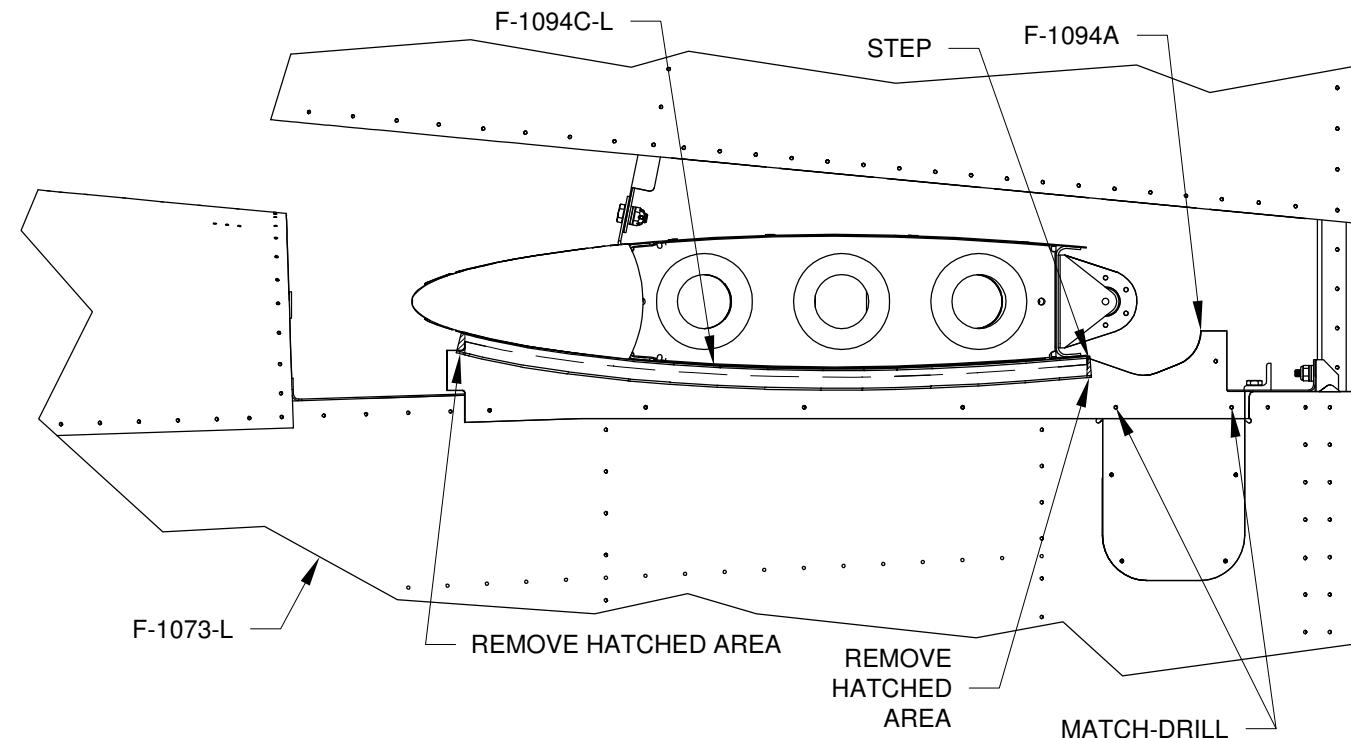

FIGURE 3: FITTING THE GAP SEAL AND GAP FAIRING
Step 7: Mark and trim the aft edge of the F-1094C Gap Seal parallel with the step (see Figure 3) in the F-1094A Empennage Gap Cover. The F-1094C Gap Seal has been created oversize to account for material shrinkage over time. Compress the gap seal onto the F-1094A Empennage Gap Cover as shown in Figure 3 leaving just enough material to properly trim the forward end of the gap seal. Mark and trim the forward edge of the gap seal as shown in Figure 3. This will create F-1094C-L.
Step 8: Install the F-824B Cover Plate on the tailcone assembly, using at least two of the four lower attach holes. Cleco the F-1094A Gap Cover to the tailcone assembly (the holes were left open in the Section 10 Tailcone Assembly). See Figure 3.
Step 9: Match-Drill #40 the aft two lower holes indicated in Figure 3 in the F-1094A Empennage Gap Cover into the F-824PP Cover Plate and F-1032-L Tailcone Longerons Left.